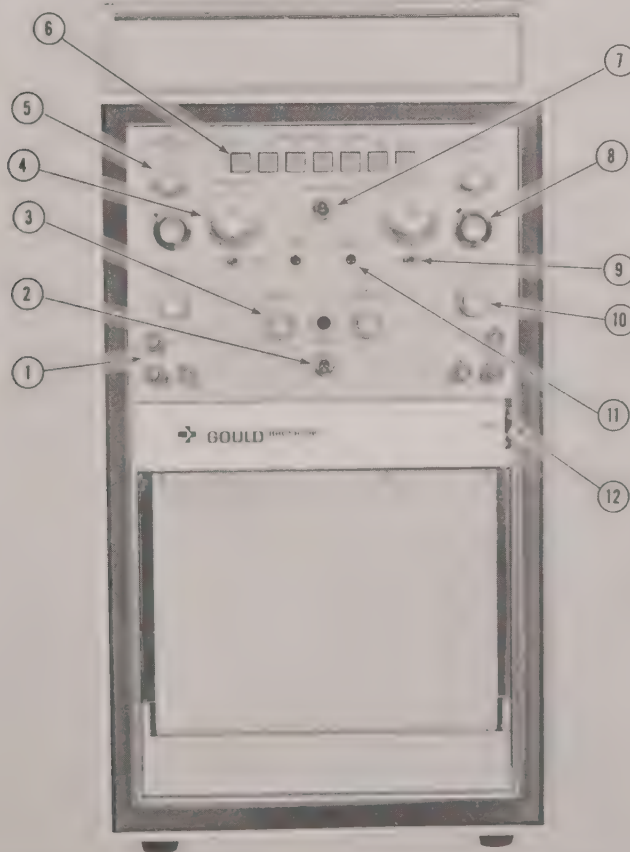

FIGURE 4-1 FRONT PANEL CONTROLS (15-6327-10 shown)
1. Turn MAIN POWER switch to the OFF position (Fig. 4-1).
NOTE: The circled numbers in Figure 4-1 correspond with the items listed below.